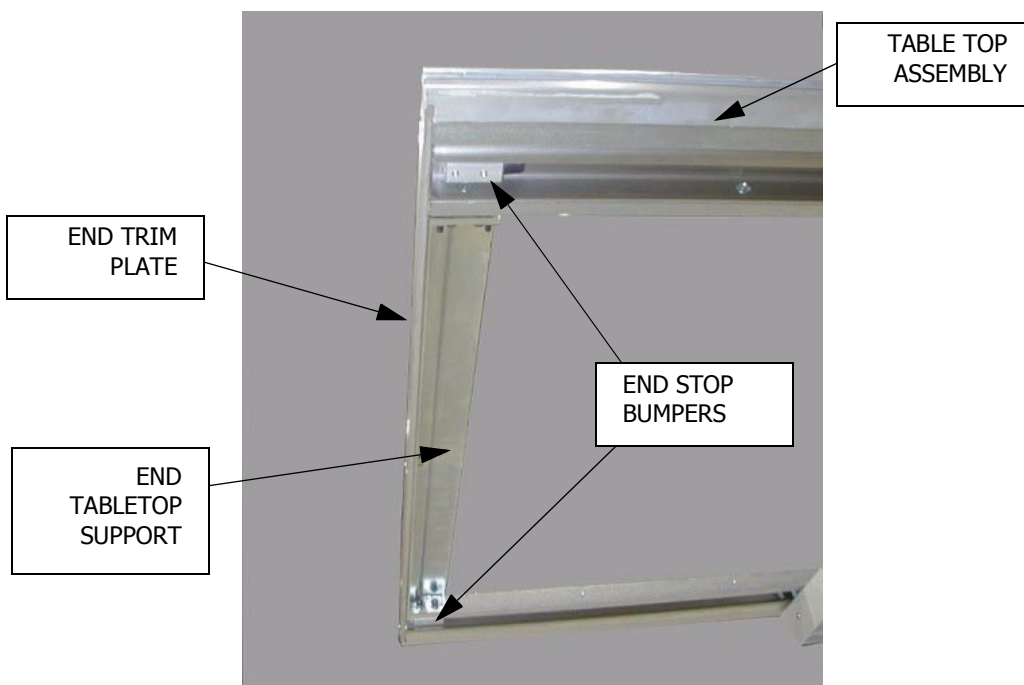

Figure 6. Table Top End Trim Plate and End Stop Bumpers
2. At one end of the Tabletop Assembly, remove three (3) 1/4-20 x 1" low profile socket head screws securing End Trim Plate to Tabletop Assembly.
3. Remove two (2) Table Top End Stop Bumpers from Tabletop Frame (see Figure 6).